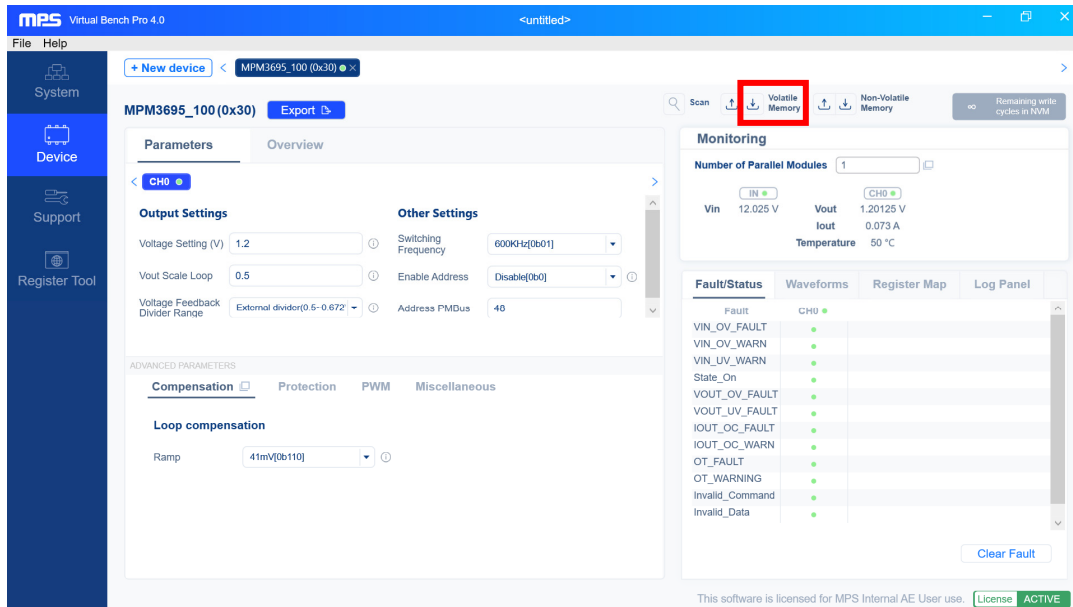

Figure 7: Write the Values Steps
- After modifying the register values, click the “Volatile Memory” button to write values to the register (see Figure 7).